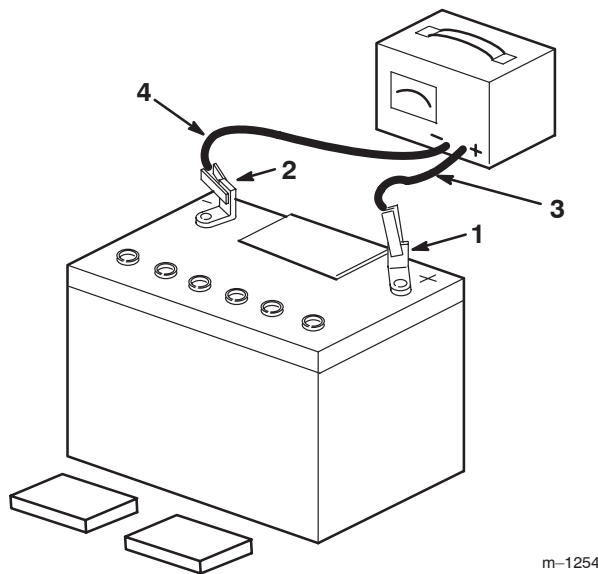

Figure 9
3. Leave the covers off and connect a 3 to 4 amp battery charger to the battery posts (Fig. 9). Charge the battery at a rate of 4 amperes or less for 4 hours (12 volts).
4. When the battery is fully charged, disconnect the charger from the electrical outlet then from the negative and positive battery posts (Fig. 9).